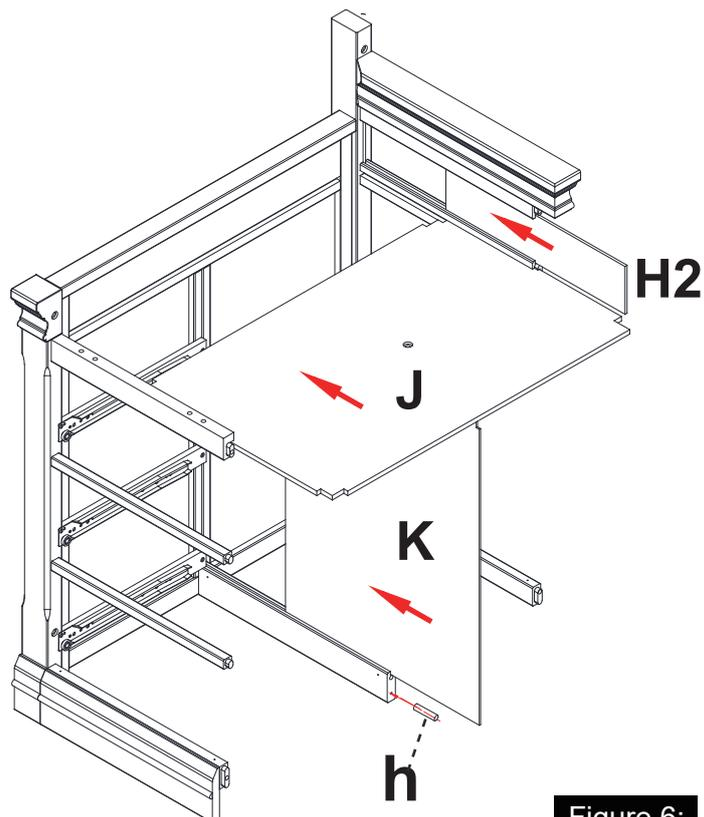

Figure 6:
STEP 6 MDF Boards Assembly as Shown on Figure 6.